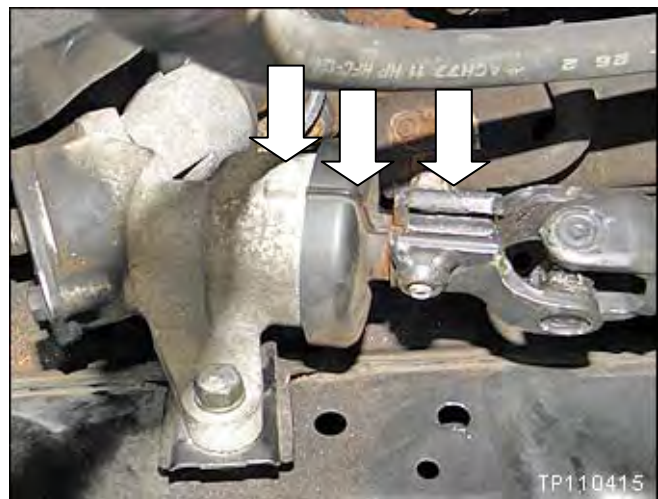

Figure SS5
NOTE: The marks shown in Figure SS5 should be aligned.
- Make sure shaft end at the steering gear assembly is aligned correctly (see Figure SS5 on page 44).